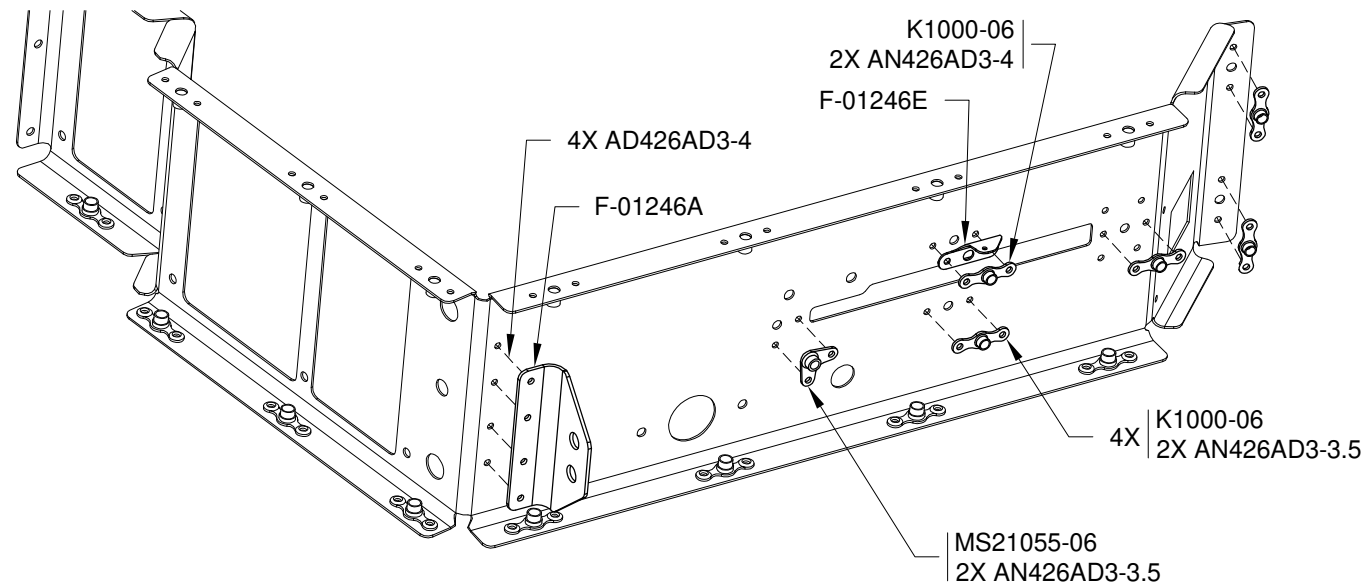

FIGURE 2: F-01246 PARTS AND HARDWARE
Step 3: Rivet the F-01246A Throttle Cable Bracket, F-01246E Spring Clip, and nutplates to the F-01246 as shown in Figure 2.